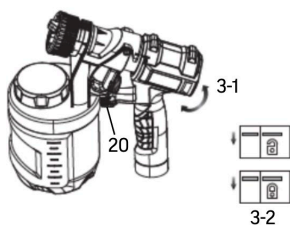

Fig. 3
5. Rotate the quick-release lock (#20) and snap onto the hook on the edges of the canister lid (Fig. 3).